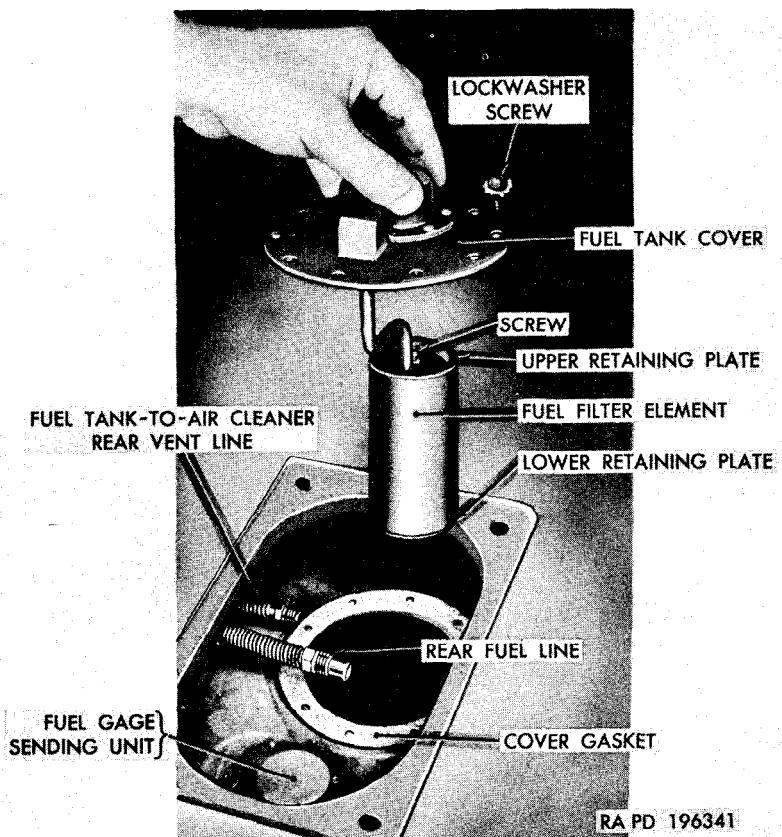

Figure 108. Fuel filter (fuel tank).
a. General. There are two types of fuel filters (par. 6). One is located on the generator regulator mounting bracket in the engine compartment (fig. 106) and the other is located in the fuel tank (fig. 108). Servicing of both types of filters is included in this section.
- (1) Remove the four floor panel fuel gage inspection hole cover screws and remove the cover (fig. 108).
- (2) Clean area around the fuel tank cover and disconnect the fuel tank to air cleaner rear vent line at the fuel tank cover.
- (3) Disconnect the rear fuel line at the fuel tank cover.
- (4) Remove the 10 lockwasher screws that secure the fuel tank cover to the tank, and lift the fuel tank cover with attached filter from the tank.